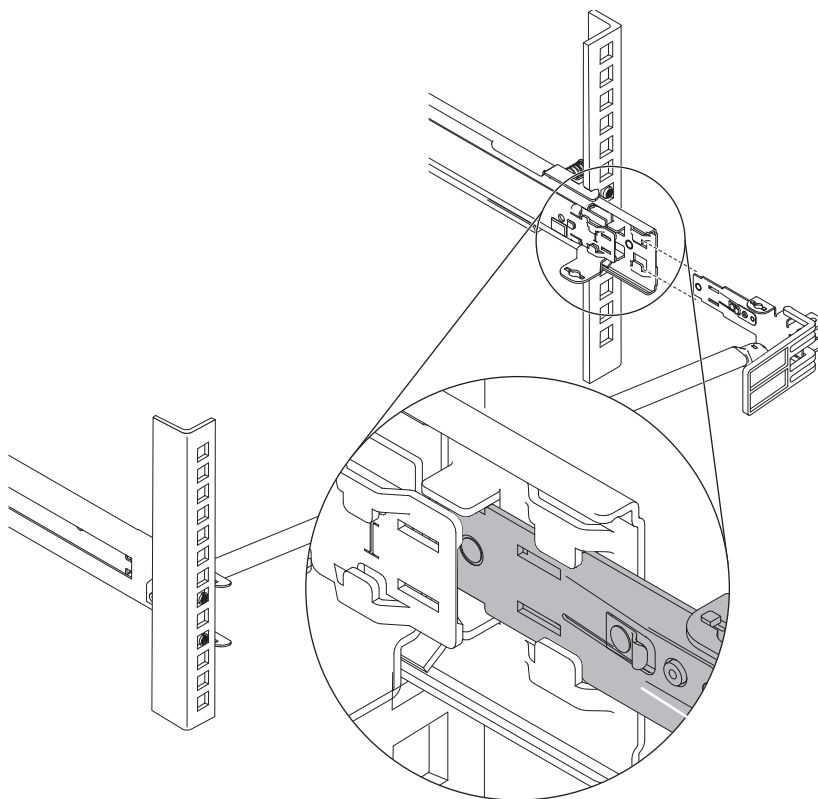

Figure 29. Connecting the stop bracket to the slide rail
3. Connect the stop bracket to the slide rail, as shown in Figure 29 on page 28.